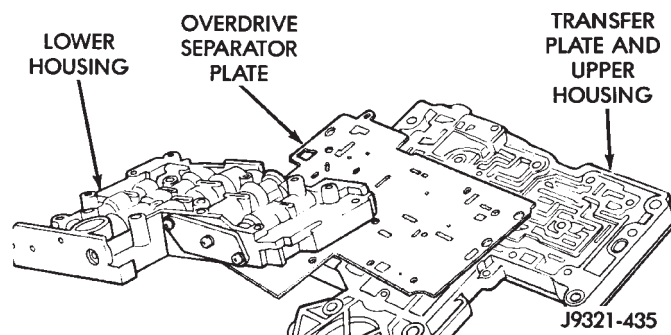

Fig. 114 Lower Housing Removal
(27) Remove lower housing and overdrive separator plate from transfer plate (Fig. 114).